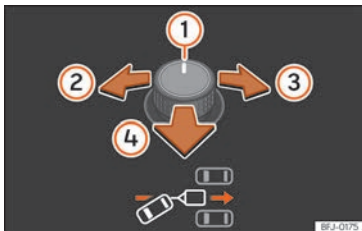
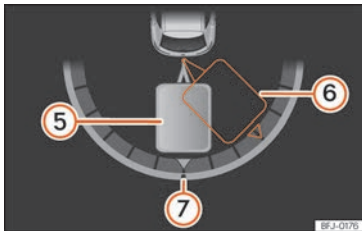

Fig. 293 Rotary exterior mirror controls.: adjust the trailer angle.
Fig. 294 Instrument panel display: engage reverse gear
Key of the **Fig. 293**, **»» Fig. 294**:
- Tilt the rotary control until the desired direction is reached **»» Fig. 293**. A representation of the tow vehicle and trailer set is shown on the instrument cluster screen for guidance purposes **»» Fig. 294**.